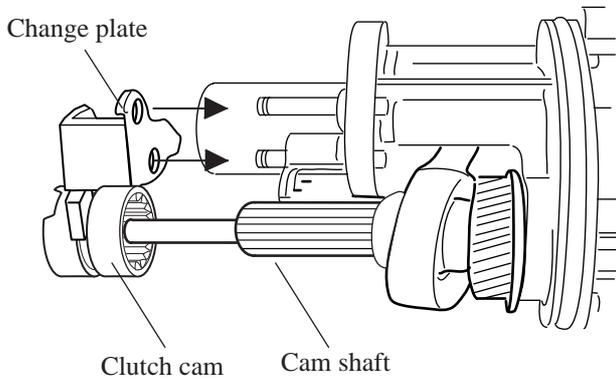

Fig. 11D
6. Set change plate in the groove of clutch cam, and assemble the clutch cam with change plate to cam shaft as illustrated in Fig. 11D.